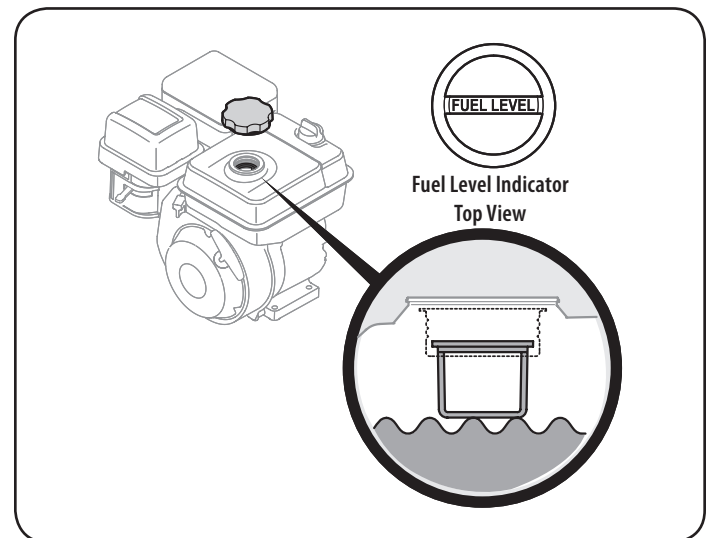

Figure 9
4. Fill the tank until the fuel reaches the "fuel full" indicator mark. See Figure 9.